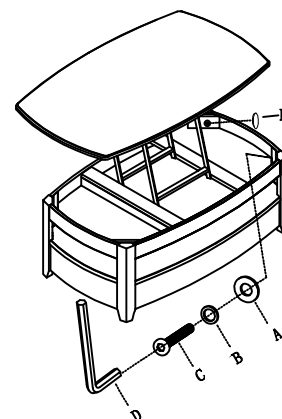

Figure 3
4. Turn the table upright ,assemble Top to the legs using Bolt (C), Lock Washer(B), Flat Washer (A) and tighten all bolts using Allen Wrench (D), as shown in Figure 3 .
5. Cover the bolt's hole by Plastic cap (F) under the lift top.